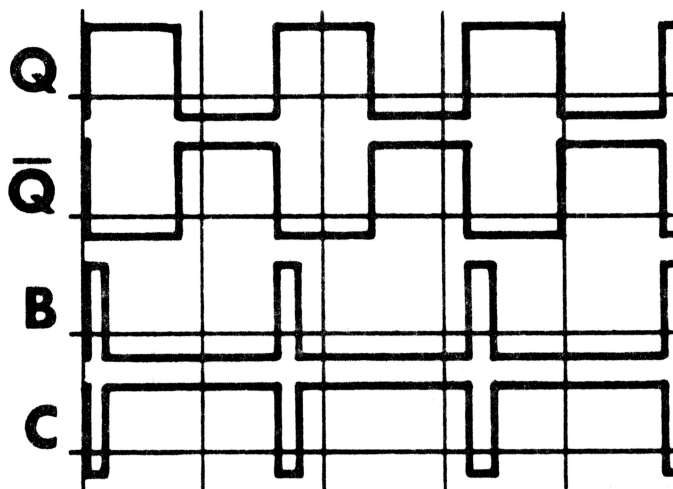

FIGURE 2
Fig. 2 represents a typical digital system with square wave as a flip flop output "Q" and " \bar{Q} ". "B" and "C" are generated each time "Q" goes positive. This relationship may be verified by connecting an input gate (white wire) to flip flop "Q" and using the probe tip at "B" or "C" as follows:
1. Referring to Fig. 2, connect one of the input gates to "Q".